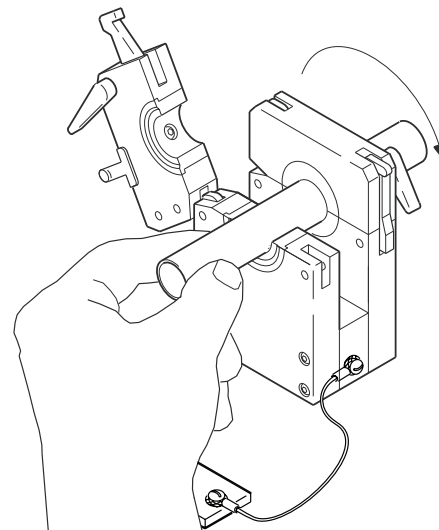

Figure 18 *Placing the Tubing*
5. Close and lock the side plate that is not adjustable. See Figure 18.